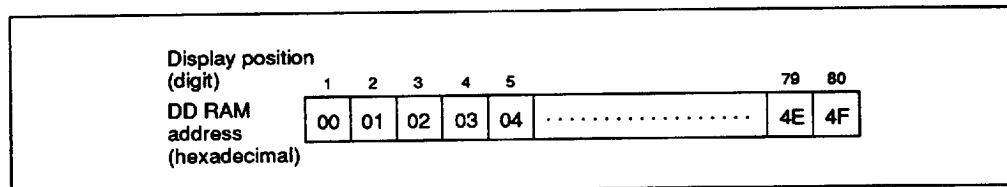

Figure 2 1-Line Display
• 1-line display ($N = 0$) (figure 2)